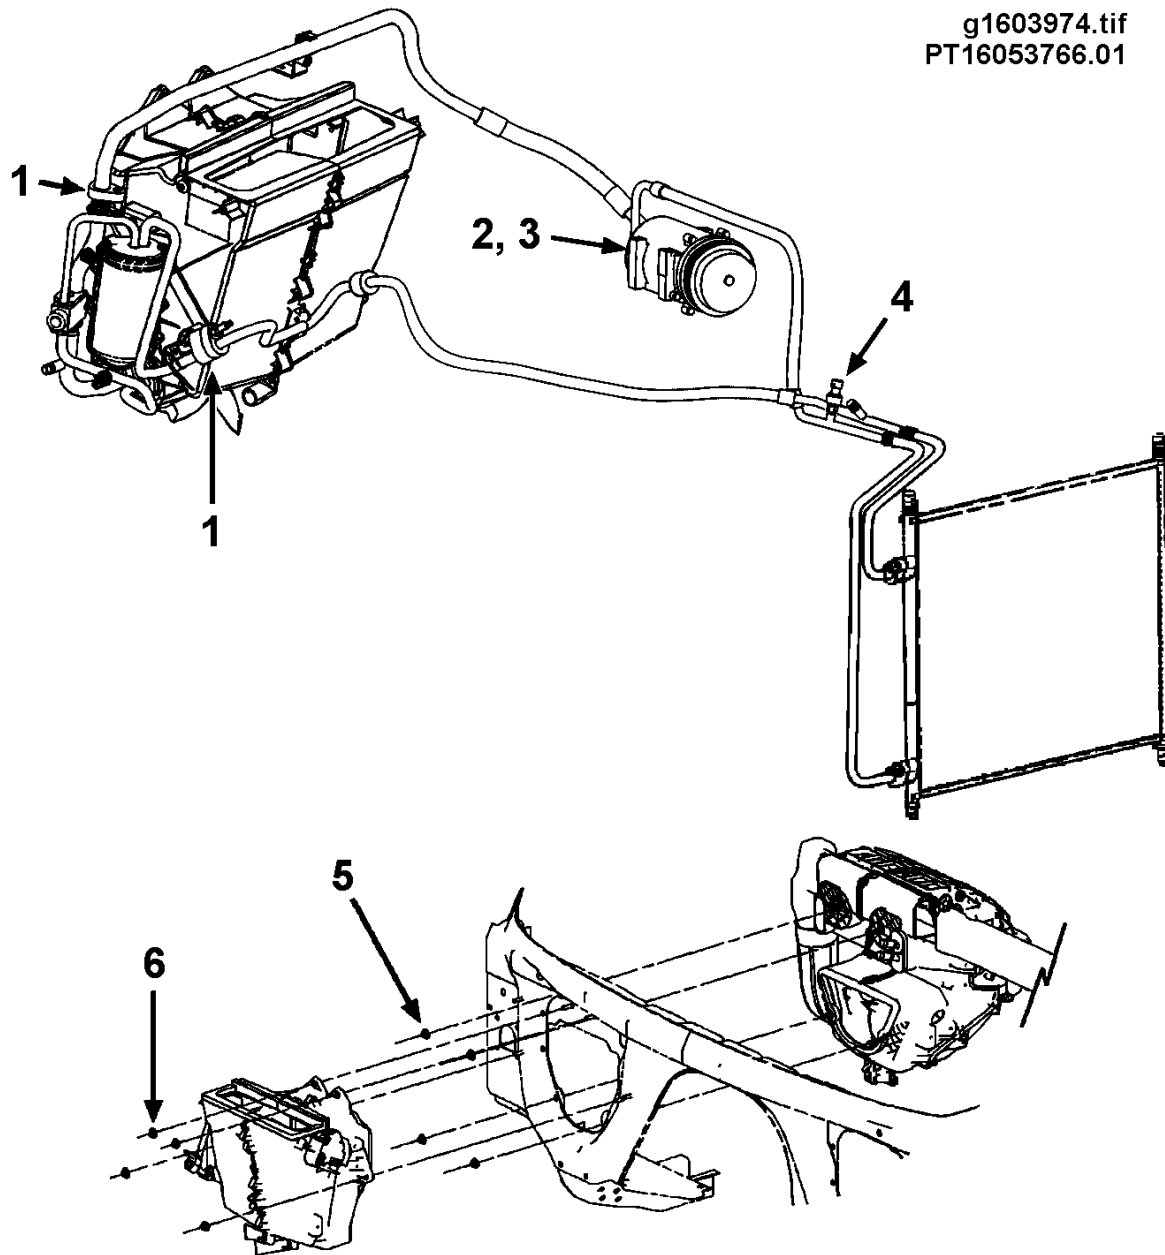

Figure 74 Torque Locations (Figure 1 of 4)
* Refer to the torque location diagrams (Figures 74, 75, 76, and 77) that follow this table.